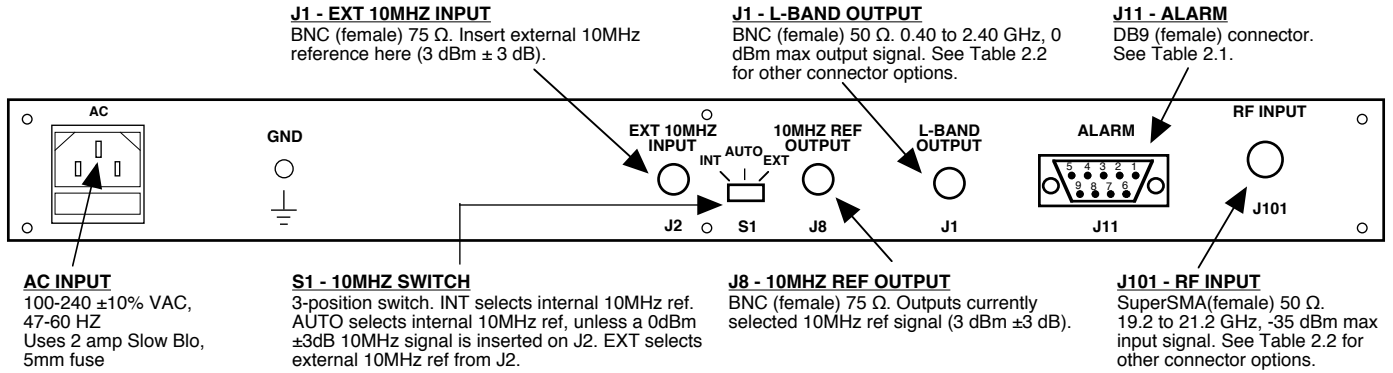

FIGURE 2.1 2116-192212 Rear Panel I/O's
2.2 Rear Panel Input/Output Signals - Figure 2.1 shows the input and output connectors on the rear panel.
- 1.) Connect a -55 dBm to -35 dBm signal to RF INPUT, J101 (Figure 2.1).
- 5.) Select either INT (for internal 10MHz ref), AUTO (for internal 10MHz ref UNLESS a external 10MHz, 0 dBm signal is connected to J2), or EXT (for external 10MHz, 0 dBm ref that is inserted at J2) on rear panel switch S1 (Figure 2.1).
- 7.) Check that a 10MHz, 0 dBm \pm 3 dB signal is present at the 10MHZ REF OUTPUT (J8) (Figure 2.1).